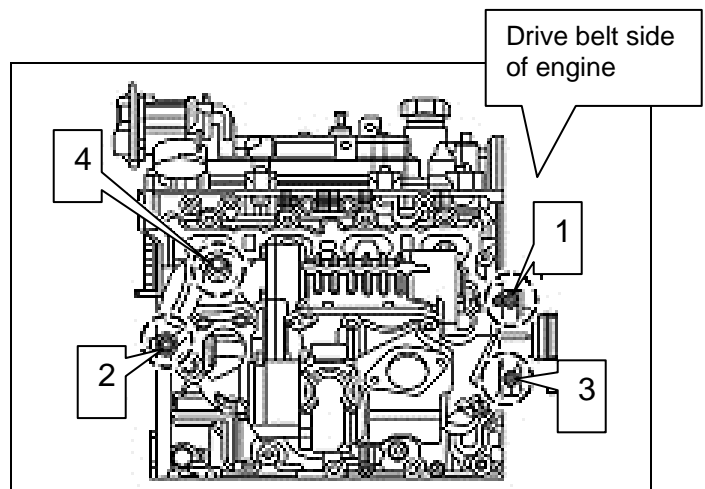

Figure 52
74. Install the supercharger onto the vehicle and torque the one nut and three bolts in the order shown in Figure 52.